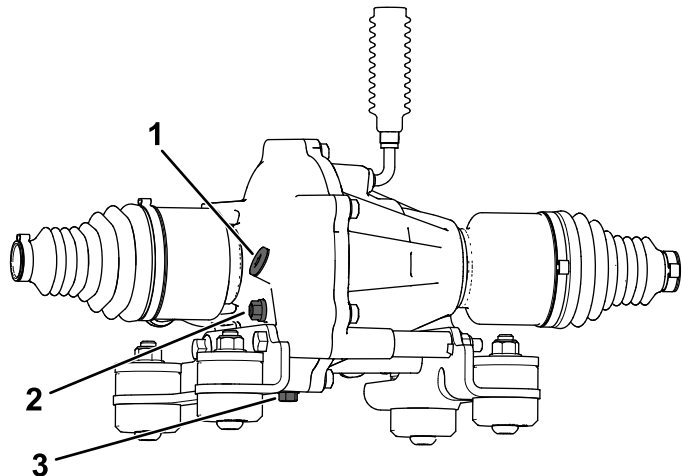

Figure 85
4. Remove the check plug on the front differential (Figure 85).
5. If the oil level is low, you may add the specified oil through the check plug opening (Figure 85).
4. Align a drain pan under the drain plug (Figure 85).
5. Remove the fill plug (Figure 85).
6. Remove the drain plug and allow the fluid to drain completely (Figure 85).